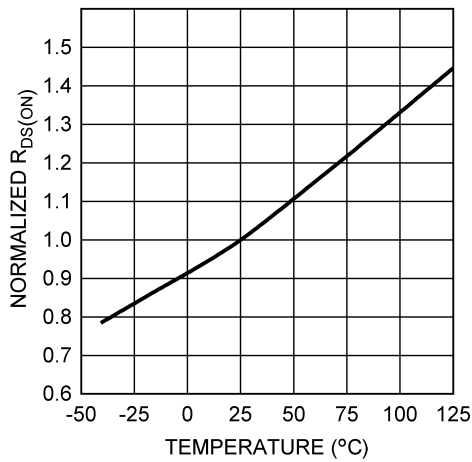

图 6-4. Normalized  $R_{DS(ON)}$  vs Temperature
- (1) *Absolute Maximum Ratings* indicate limits beyond which damage to the device may occur, including inoperability and degradation of device reliability and/or performance. Functional operation of the device and/or non-degradation at the Absolute Maximum Ratings or other conditions beyond those indicated in the Figure 6.4 is not implied. The Recommended Operating Conditions indicate conditions at which the device is functional and should not be operated beyond such conditions.
- (2) If Military/Aerospace specified devices are required, please contact the Texas Instruments Sales Office/ Distributors for availability and specifications.
- (3) The absolute-maximum specification of the ‘SW to GND’ applies to dc voltage. An extended negative voltage limit of - 10 V applies to a pulse of up to 50 ns.
- (4) For soldering specifications, refer to the application report *Absolute Maximum Ratings for Soldering* (SNOA549).